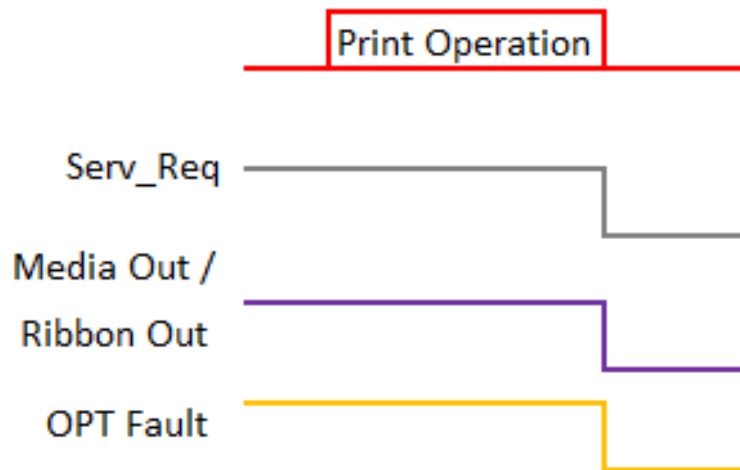

Figure 8
3.2 There are six output pins for the printer's application; the timing chart is shown in Figure 8.